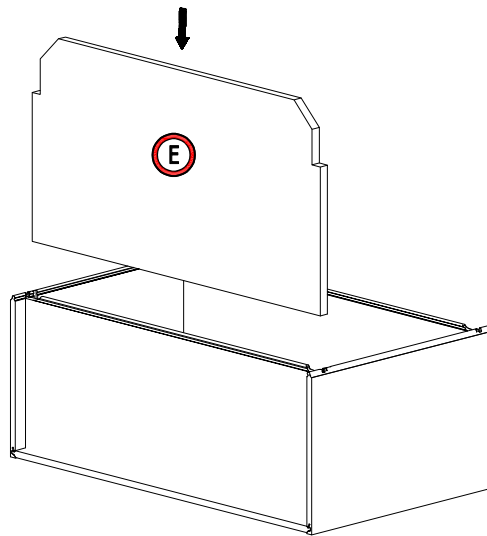

Figure 5
5. Installing the shelf Panels: Insert the shelf panel (E) into the square groove of the back panel (B) and the side panel (C). (Figure 5)